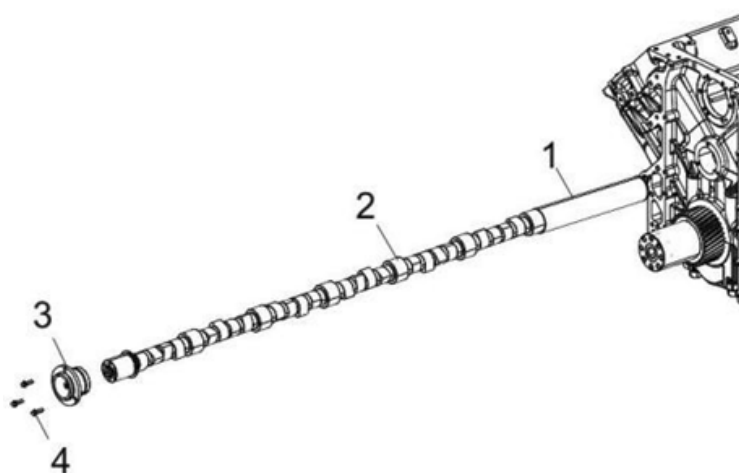

Figure 136.
5. Install the camshaft (Figure 136, Item 2), gradually rotating it as you insert it.
6. Apply a film of oil to the bearing bore. Fit the bearing (Figure 136, Item 3), taking care to position the lubrication groove at the top at 12 o'clock.
7. Apply a film of Loctite 242 to the fasten bolts (Figure 136, Item 4) and tighten to a torque of 29 ft/lb.